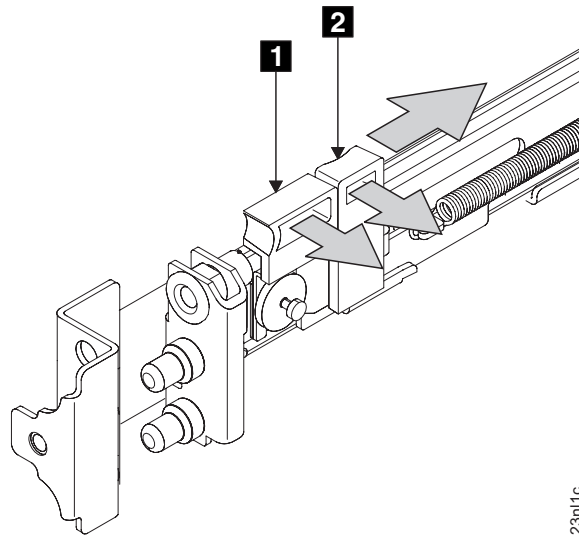

Figure 39. Opening the front latch-lock carrier assembly
3. Gently push the latch lock **2** away from the rail as you move the latch lever **1** toward the far end of the rail (Figure 39). The latch-lock carrier assembly slides against the spring tension.